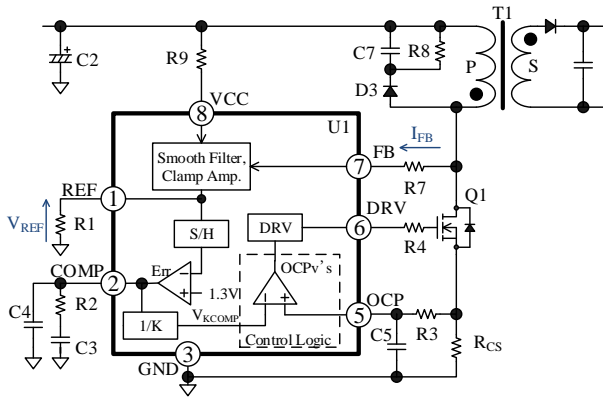
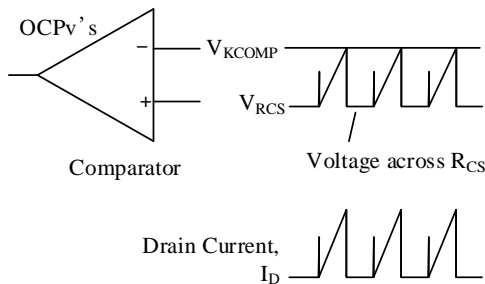

Figure 10-7. Constant Voltage Control Circuit
Figure 10-8.  $I_D$  and OCPv's Comparator Operation in Normal Operation
For the constant voltage (CV) control of the output voltage, the IC uses a peak current mode control that provides high speed transient response and stable operation. The IC compares  $V_{RCS}$  with the internal reference voltage,  $V_{KCOMP}$ , by the internal comparator (OCPV's), and controls so that the peak value of  $V_{RCS}$  gets close to  $V_{KCOMP}$ . Where,  $V_{RCS}$  is the voltage across of the current detection resistor,  $R_{CS}$ . The REF pin voltage is generated from the FB pin voltage.  $V_{KCOMP}$  is a value obtained by inverting the sampled REF pin voltage by the error amplifier (see Figure 10-7 and Figure 10-8). The following equation shows the relation between the REF pin voltage and the FB pin current: